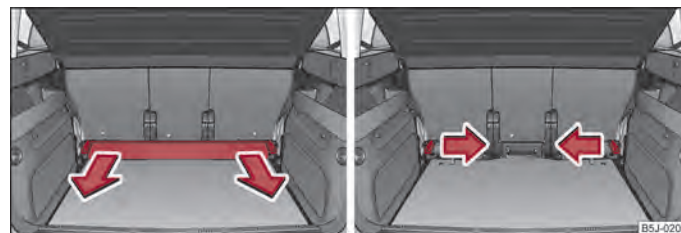

Fig. 51 Luggage compartment: Take out lateral carrier rail/Take out fixing wedges
- Grasp the lateral carrier rail ⇒ fig. 51 and take it out by pulling in the direction of arrow.
- Grasp the fixing wedge ⇒ fig. 51 on the right and take it out by pulling in the direction of arrow. To remove the fixing wedge on the other side of the luggage compartment, proceed in the same way.